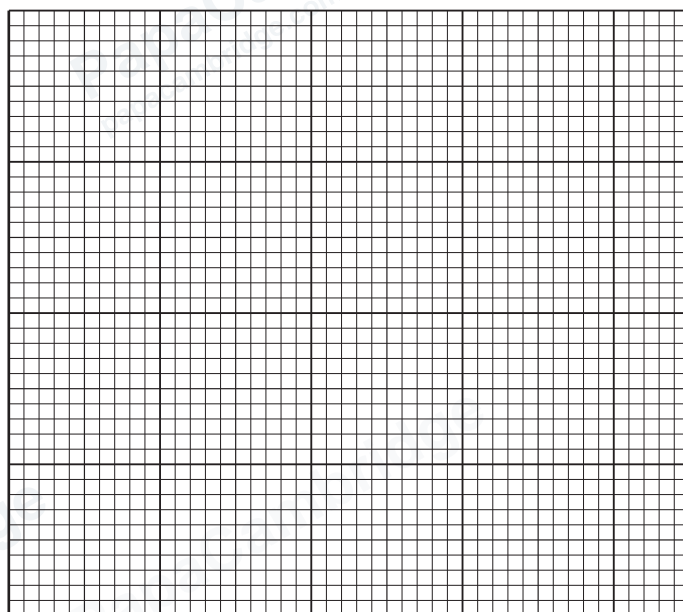

Figure 1.3
- (i) Draw a bar chart of the data in Table 1.4 on the grid in Figure 1.3.